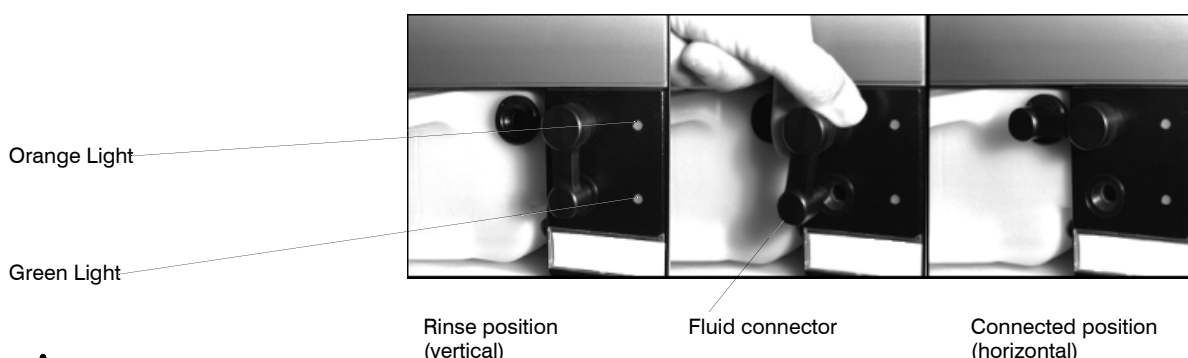

Figure 11.5 Connecting Wash Fluid Container
- Never load a wash fluid container when the orange status light is lit (see Figure 11.5).